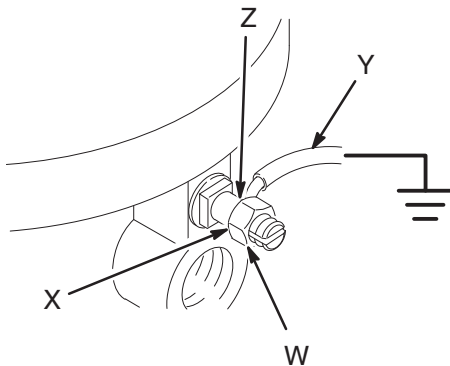

Fig. 1
1. *Pump*: use a ground wire and clamp. See Fig. 1. Loosen the grounding lug locknut (W) and washer (X). Insert one end of a 12 ga (1.5 mm²) minimum ground wire (Y) into the slot in lug (Z) and tighten the locknut securely. Connect the other end of the wire to a true earth ground. For a ground wire and clamp, order Part No. 237569.